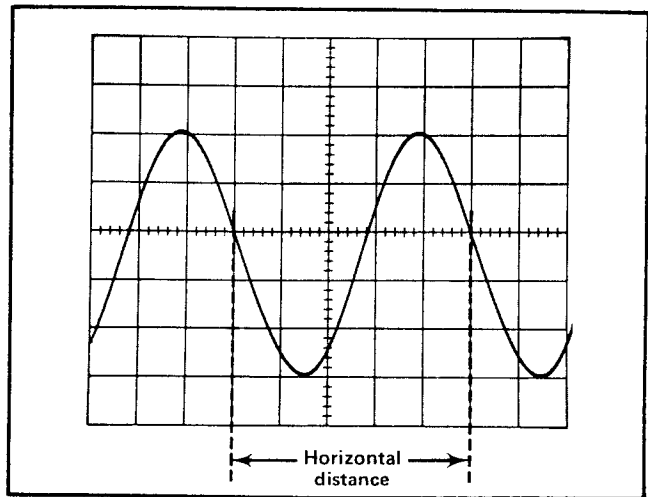

Fig. 2-21. Measuring the time duration between points on a waveform.
5. Set the TIME/DIV switch to the fastest sweep rate that displays less than eight divisions between the time measurement points (see Fig. 2-21). See the topic entitled Selecting Sweep Rate in this section concerning non-linearity of first and last divisions of display.
**Example.** Assume that the distance between the time measurement points is five divisions (see Fig. 2-21) and the TIME/DIV switch is set to .1 ms with the magnifier off.
**Example.** The frequency of the signal shown in Fig. 2-21 which has a time duration of 0.5 millisecond is: